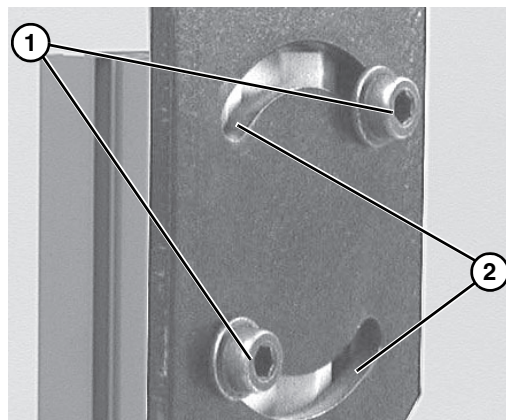

Figure 11
To rotate stand top plate, screws (Figure 11, item 1) may need to be re-located to other t-slots (Figure 11, item 2).
1. Loosen flange socket screws (Figure 11, item 1) on both sides of stand.
Failure to secure screws (Figure 11, item 1) may cause conveyor sections to drop down, causing severe injury.
TIGHTEN SCREWS (Figure 11, item 1) AFTER ADJUSTMENT.
3. Secure flange socket screws (Figure 11, item 1) to 24 ft-lb (18 Nm).